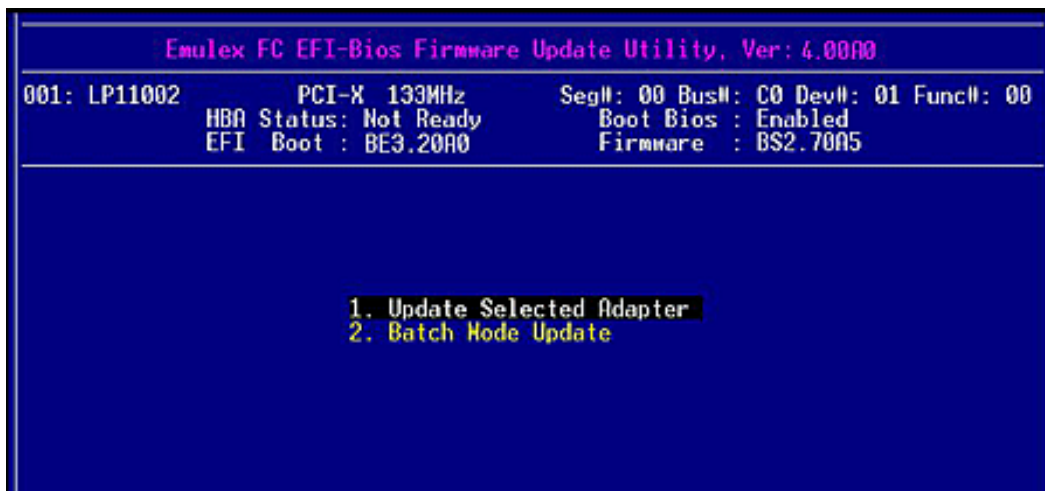

Figure 6-39 Update Selected Adapter
1. On the main EFI utility menu select **2. Firmware Update** and press <Enter>. The Firmware Update Utility menu is displayed (Figure 6-39).